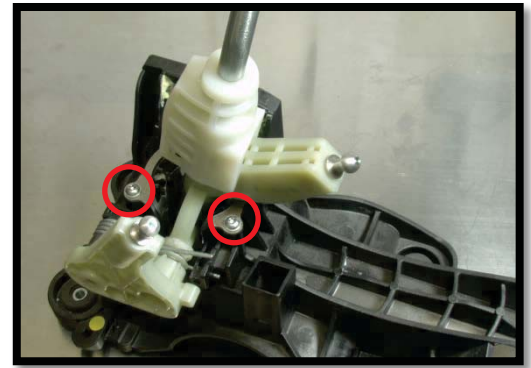

Figure 4a
- a) **Remove the metal retaining ring.** Use a T-20 Torx driver to remove the two (2) Torx screws and pull the metal ring from the shifter housing (Figure 4a).